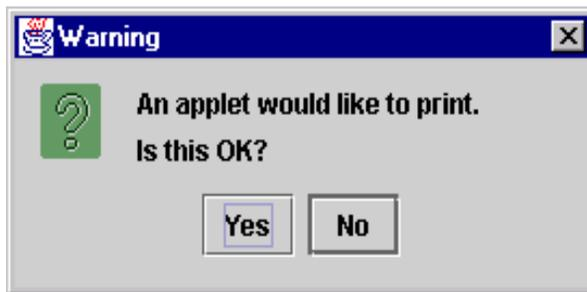

Figure 4–23: Performance Monitor Print all Graphs dialog box
3. Select the Print All Graphs option. A dialog box appears, as shown in Figure 4–23.